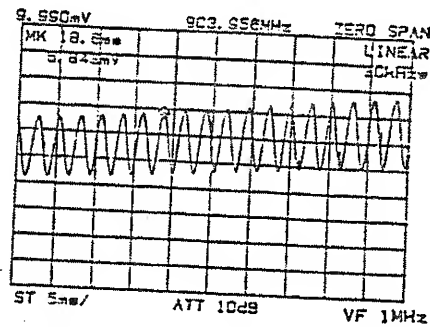

Figure 5-6 Reading the Difference from the Time Indication
- ⑬ Move the marker to the next peak and obtain the difference $T(s)$ between the time indication of that marker and the time indication in step ⑫. In this example, it can be obtained as $18.6 - 16.0 = 2.6 (ms)$ (Figure 5-6).